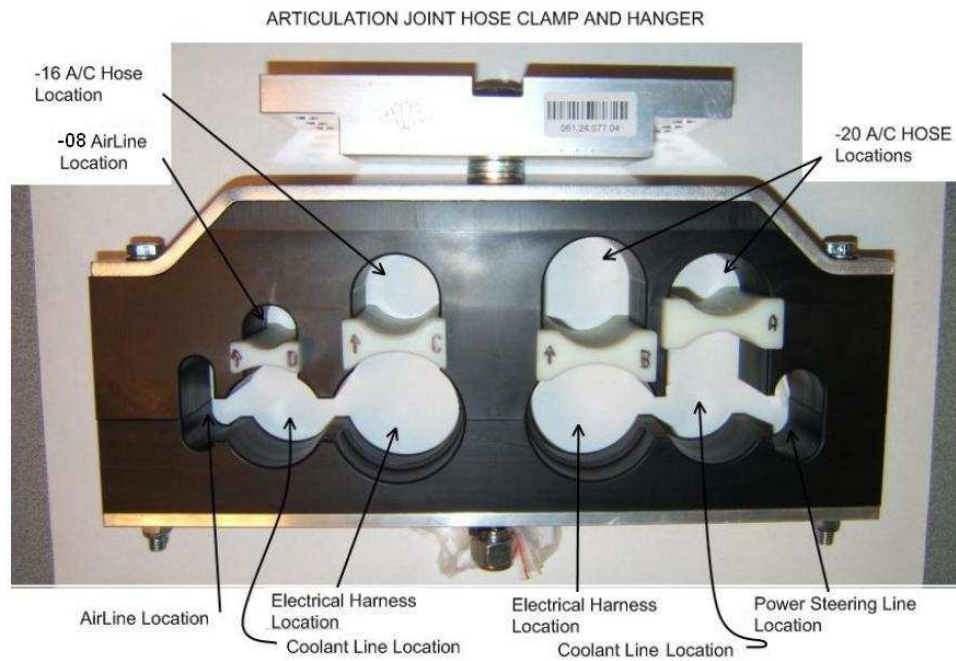

Figure 2: HOSES AND HARNESS POSITION
15. Position all the new A/C hoses Re-assemble the hoses and harness on the center clamp making sure that the marked lines are positioned on the front side of the clamp. See Figure 2 for reference.